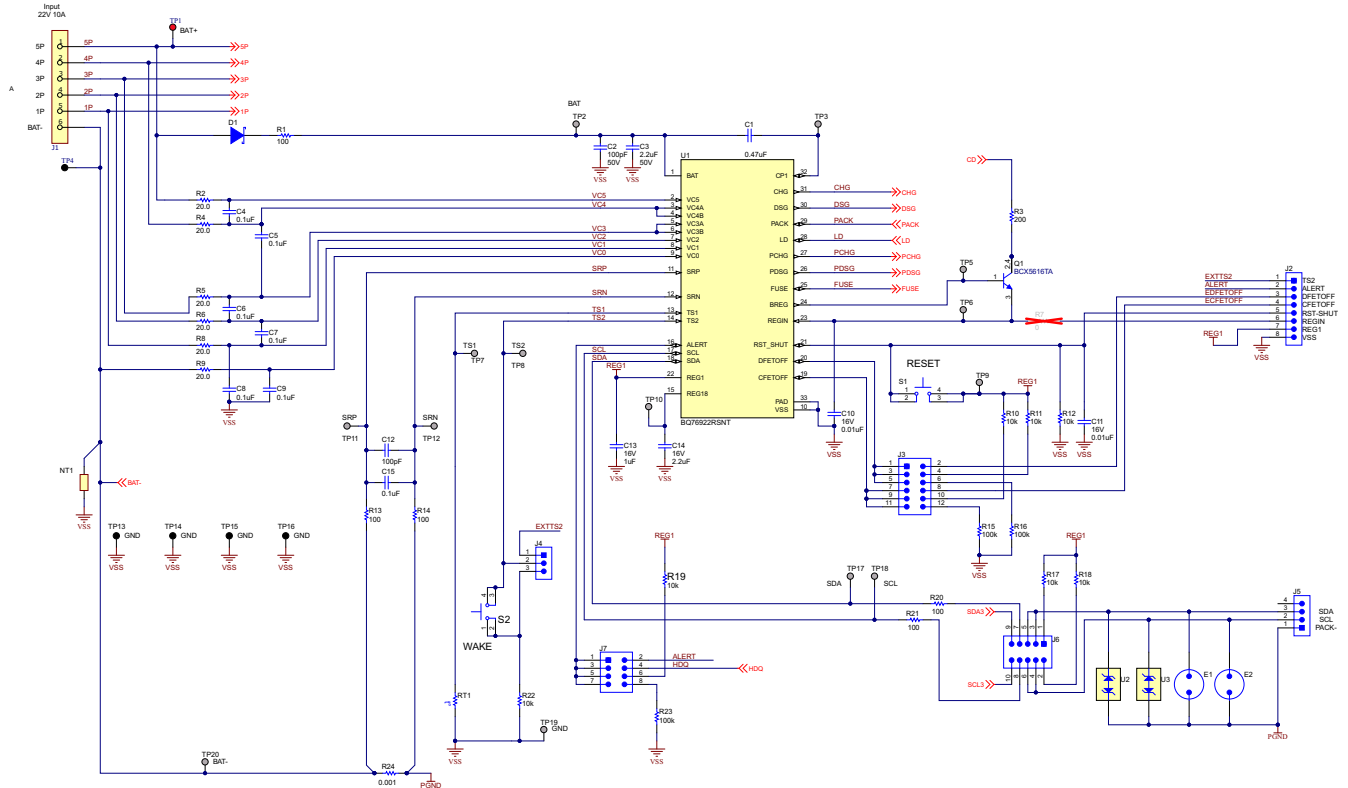

图 8-2. BQ76922 5-Series Cell Schematic Diagram—Monitor
- Power dissipation, which can be a factor of the RDS(ON) rating of the FET, the FET package, and the PCB design.
- The overdrive level of the BQ76922 device charge pump should be selected based on RDS(ON) requirements for the protection FETs and their voltage handling requirements. If the FETs are selected with a maximum gate-to-source voltage of 15V, then the 11V overdrive mode within the BQ76922 device can be used. If the FETs are not specified to withstand this level, or there is a concern over gate leakage current on the FETs, the lower overdrive level of 5.5V can be selected.
- A diode can optionally be included in the collector circuit of the BJT, in order to avoid reverse current flow from BREG through the base-collector junction of the BJT to PACK+ during a pack short circuit event. This diode can be seen in 图 8-2 at D2.